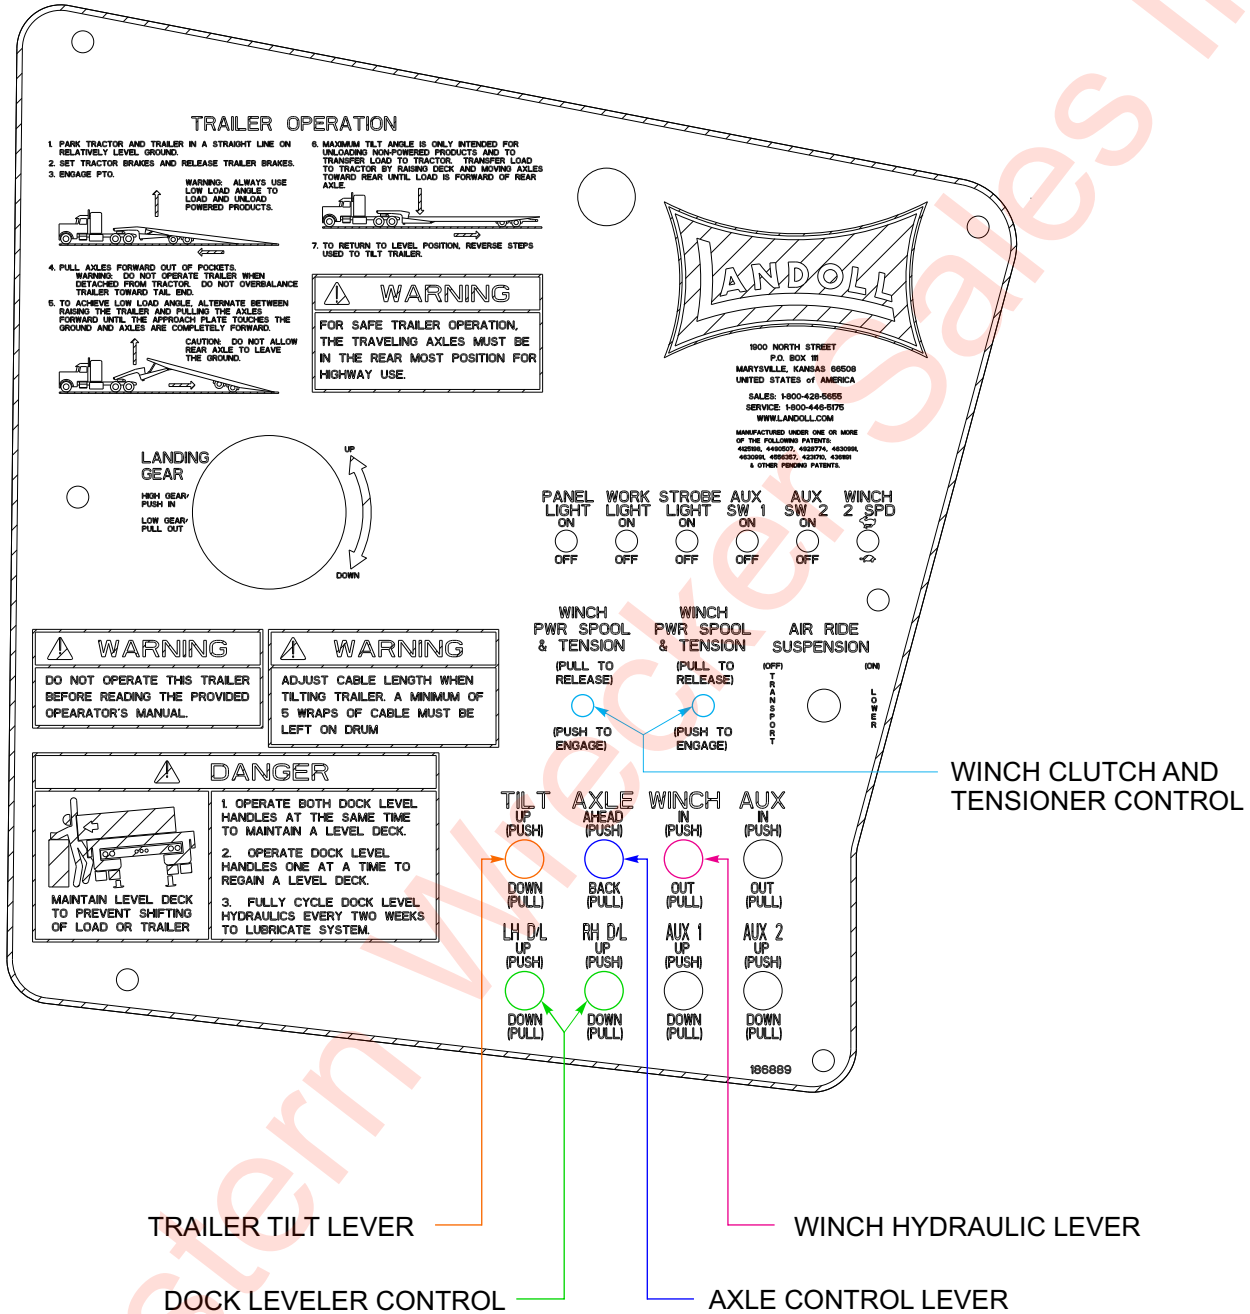

Figure 3-4: Hydraulic Controls
2. The Landing Gear lever is located in the hydraulic control panel (**See Figure 3-4.**) It has three positions:
The Trailer Tilt lever is located on the driver's side of the upper deck (See Figure 3-4.) It is the front lever and has three positions:
The Axle Control lever (See Figure 3-4) is located on the control panel. It is the third lever with three positions: